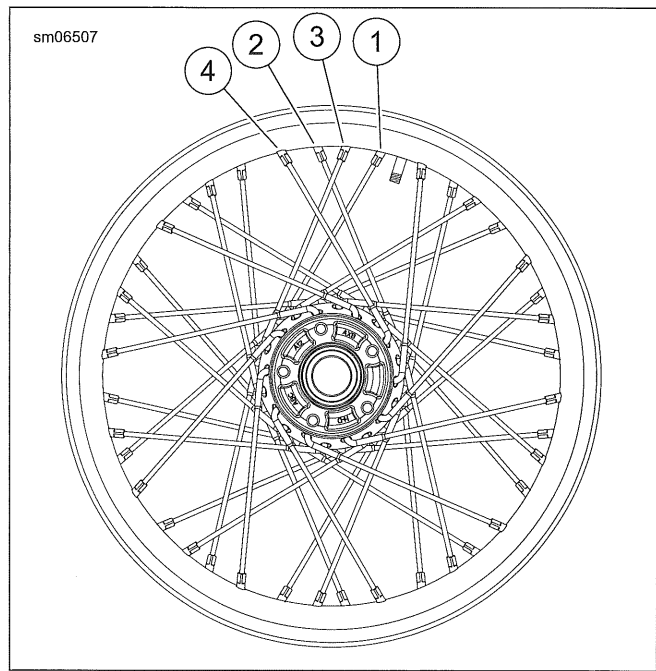

Figure 3-13. Center Valve Rim
- b. **Rim with center valve hole:** See Figure 3-13. Start at the first hole counterclockwise (1) from valve stem hole.
- a. Starting at the second hole counterclockwise (2) from first spoke installed, install inner spoke.
11. Starting at the first hole counterclockwise (3) from first spoke installed, install inner spoke. Install remaining inner spokes in every fourth hole.
13. Install outer spokes in remaining holes (4).